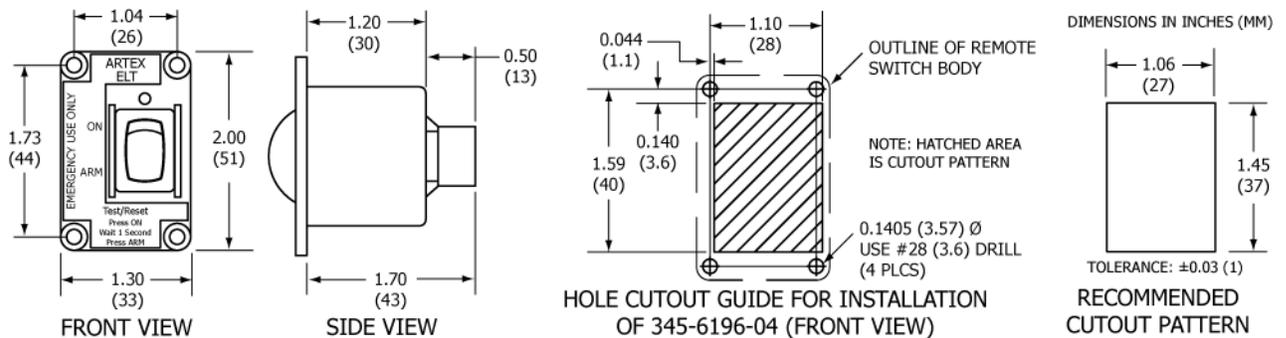

Figure 17 Remote Switch Outline and Dimensions
- 1) Mark the cutout on the cockpit panel. See Figure 17 Remote Switch Outline and Dimensions.